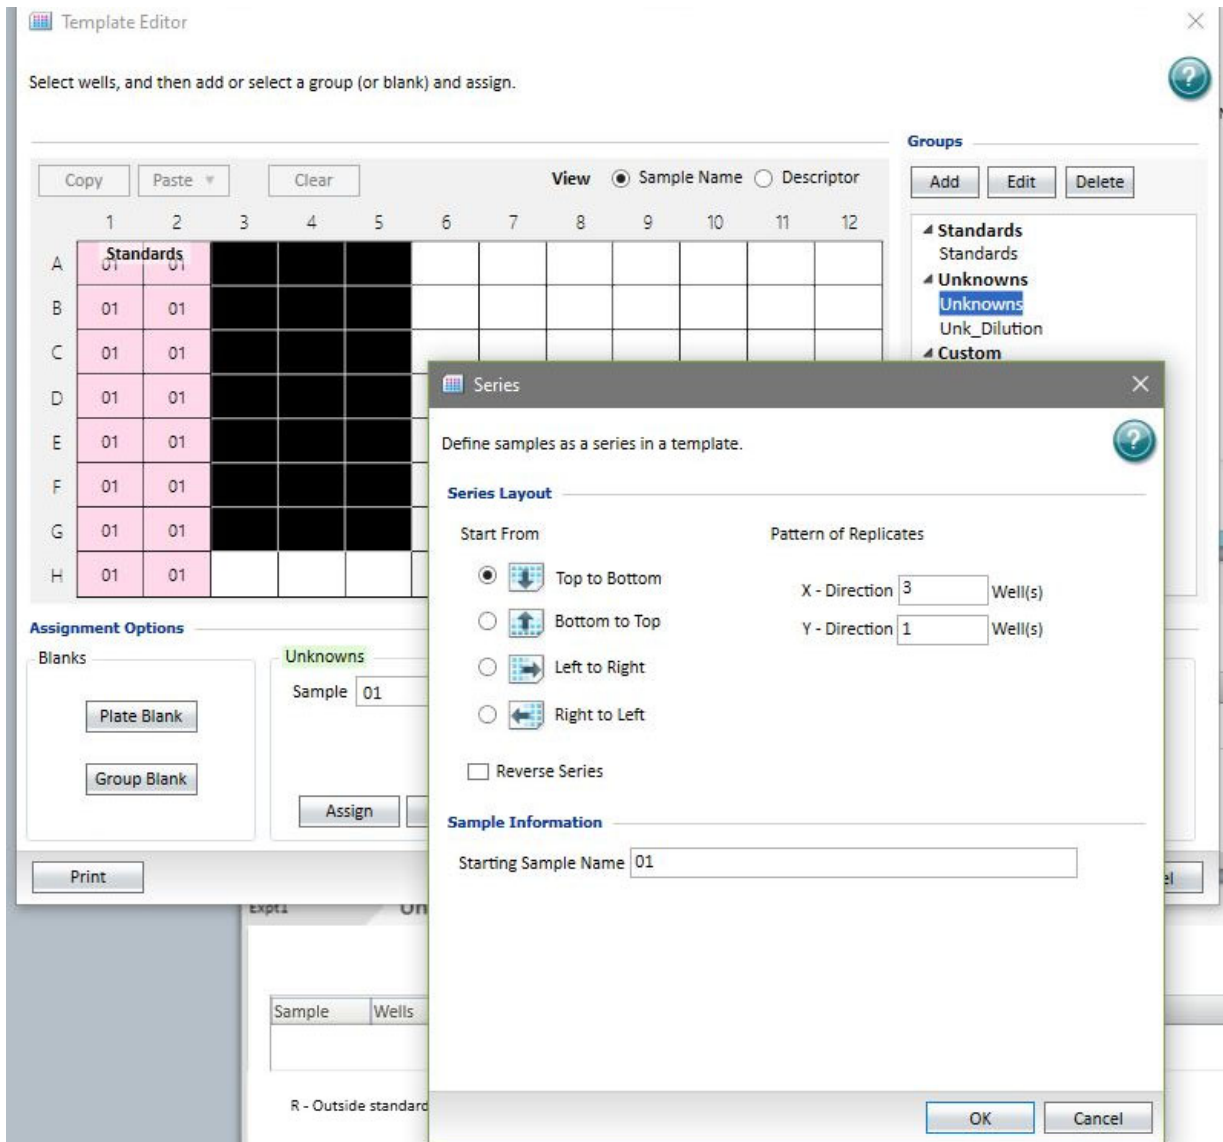

Figure 13: Options to define a sample series
- click “unknown” in the right menu (see figure 13)